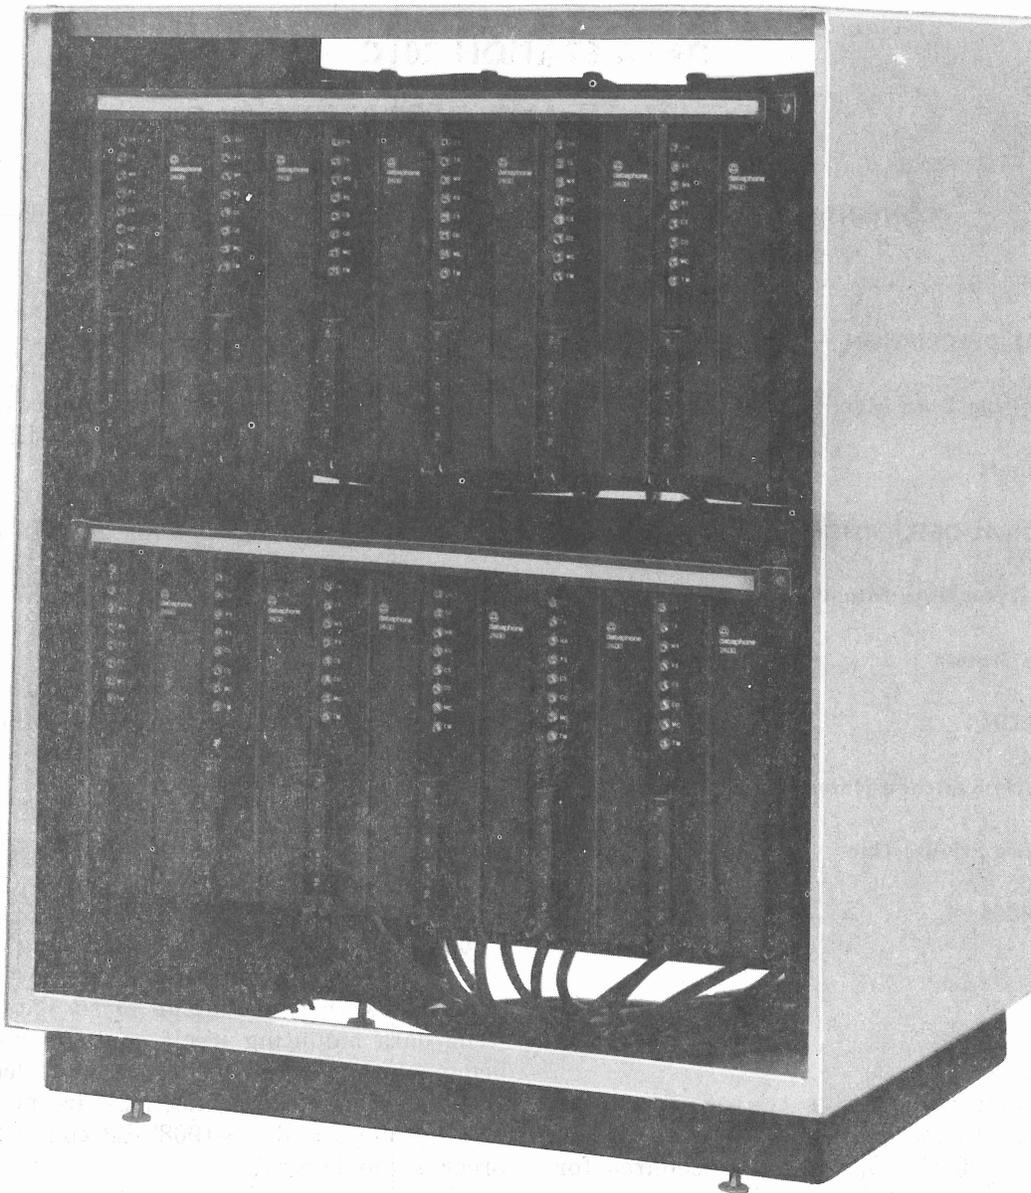

Fig. 1—Front View of KS-20018-L11 Cabinet With 12 Data Sets 201C Installed
1.03 The data station provides a multiple arrangement of data sets 201C in a single cabinet (Fig. 1). For a description of data set 201C, refer to Section 592-029-100. The three